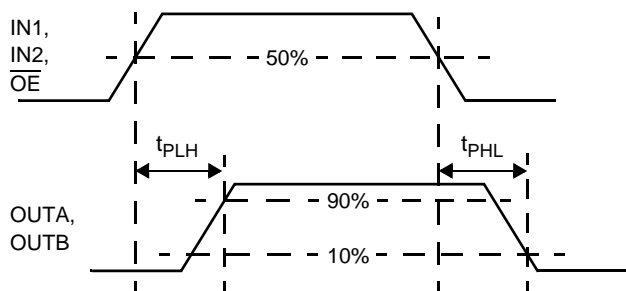

Figure 4.  $t_{PLH}$ ,  $t_{PHL}$ , and  $t_{PZH}$  Timing
- 16. Load of Output is  $8.0\ \Omega$  resistance. see Figure 4